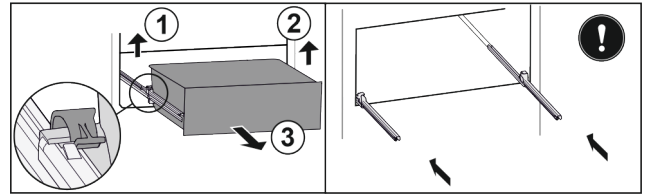

Fig. 23*
- ▶ Lift the left clamp and simultaneously pull the drawer on the left to the front Fig. 23 (1).*
- ▶ Lift the right clamp and simultaneously pull the drawer on the right to the front Fig. 23 (2).*
- ▶ Remove the drawer to the front Fig. 23 (3).*